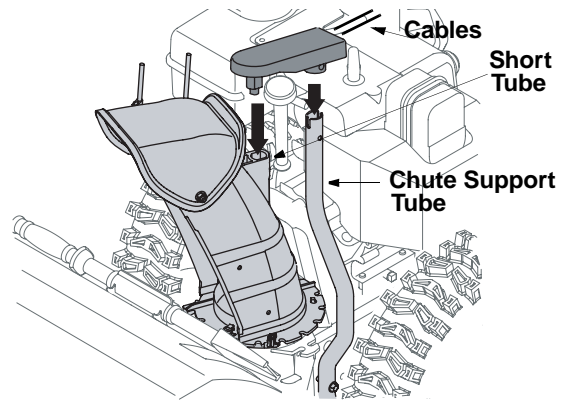

Figure 6
3. Place the chute control box on the short tube of the chute assembly and the chute support tube of the chute assembly as shown in Figure 6, cables should be towards the operator.